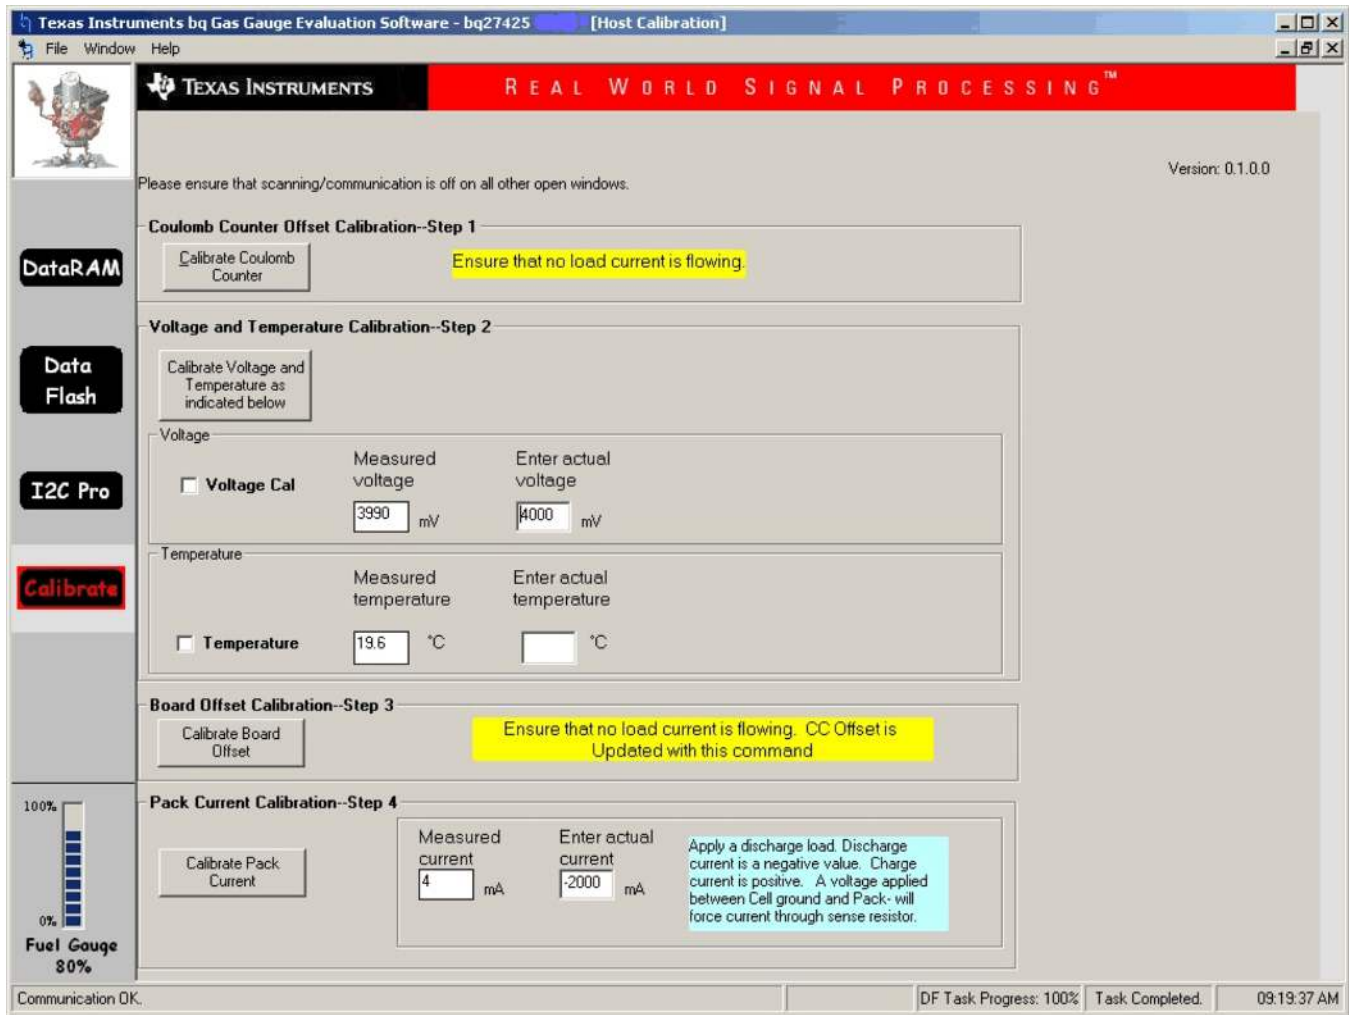

Figure 9. Calibration Screen
1. Select the types of calibration to be performed (see Figure 9).